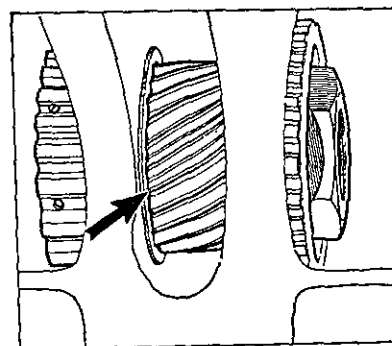

Fig. Fa.16
- (19) Refit the top and reverse clutch hub bearings to the centre webs of the transmission casing. Drift each bearing on its outer cage into the web until the bearing register contacts the face of the web.
- (20) Refit the top and reverse clutch hub, together with the final drive gear pinion but without the selective washer. Lightly tighten the forward clutch hub nut until light friction is felt on the bearings when rotating the hub.
- (21) Check the gap existing between the final drive gear and the forward clutch hub bearing face.
- (22) Subtract .002 in. (.05 mm.) from the gap measurement and select a washer of this thickness from the range available.
- (23) Remove the hub and refit the assembly with the selected washer and with the chamfer on the final drive pinion facing the gear train (see Fig. Fa.16).